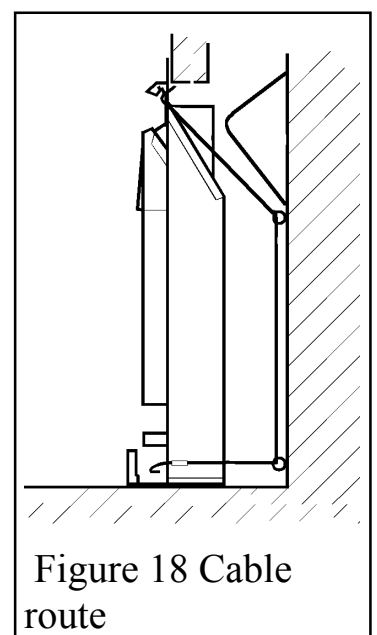

Figure 18 Cable route
5. Thread the cables through the upper eyebolts in the rear wall and then through the lower eyebolts. Return the cables through the holes near the bottom of the convection box back panel and through the "V" shaped brackets near the bottom front sides of the convection box. See figure 18.